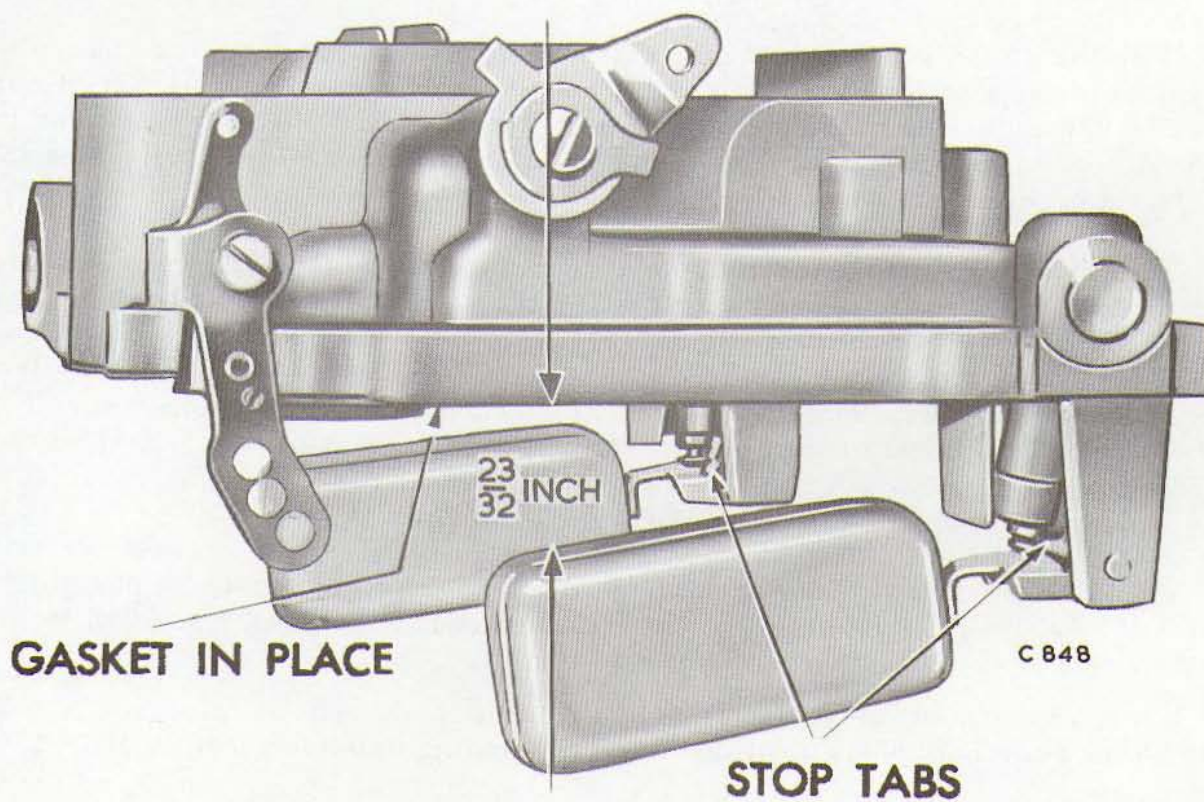

Fig. 18 Checking Float Drop
- (1) Holding the air horn in an upright position, measure the distance from the top of the floats (outer end) to the air horn gasket, as shown in Fig.18. This measurement should be 23/32 inch. If an adjustment is necessary, bend the stop tabs on the float levers until the correct drop setting has been obtained. Bend the tab towards the needle seat to lessen the drop, or away from the seat to increase the drop.
- (2) After the floats have been checked and adjusted, continue to assemble the carburettor as follows:
- (3) Place the accelerator pump plunger lever spring in the pump cylinder, then lower, the air horn carefully down on the main body.